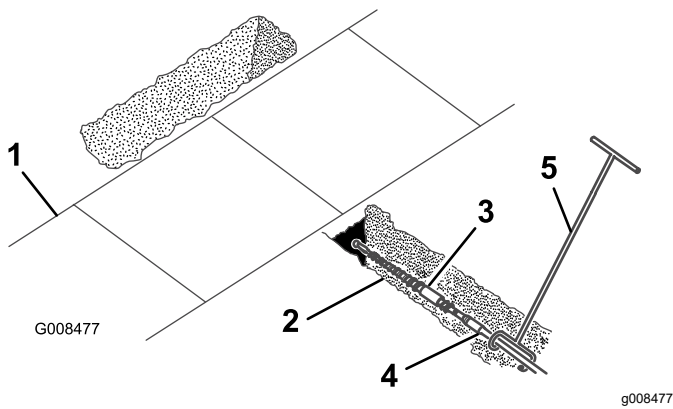

Figure 27
4. Connect the rod guide to the rod just behind the boring bit (Figure 27).
7. Slowly move the traction unit forward, while the person with the rod guide tool guides the boring bit into the soil (Figure 27).